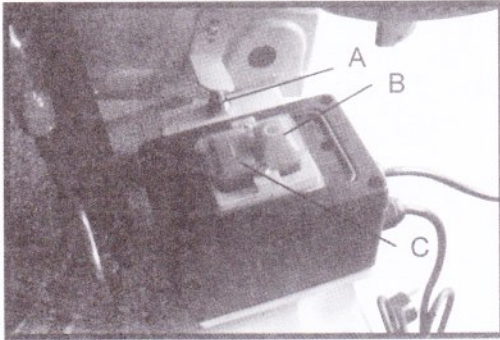

Fig. 4
This metal band saw is equipped with a electric magnetic switch, when this machine is plug in, the switch can be work. There are two buttons, one is green button-- "ON" button (B), and the other is red button --"OFF" button (C). Fig. 4.